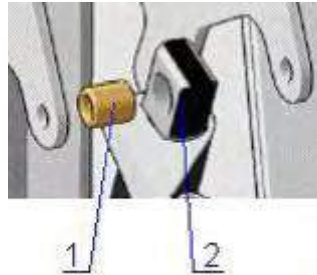

Fig. 9
- 9) Inspect the tip of the actuator (2) KA6030404 for play. If play exceeds  $\frac{5}{256}$ " (0.5 mm), replace the bronze bushing (1) KA6030005 in the tip of the actuator KA6030404 (Fig. 9).